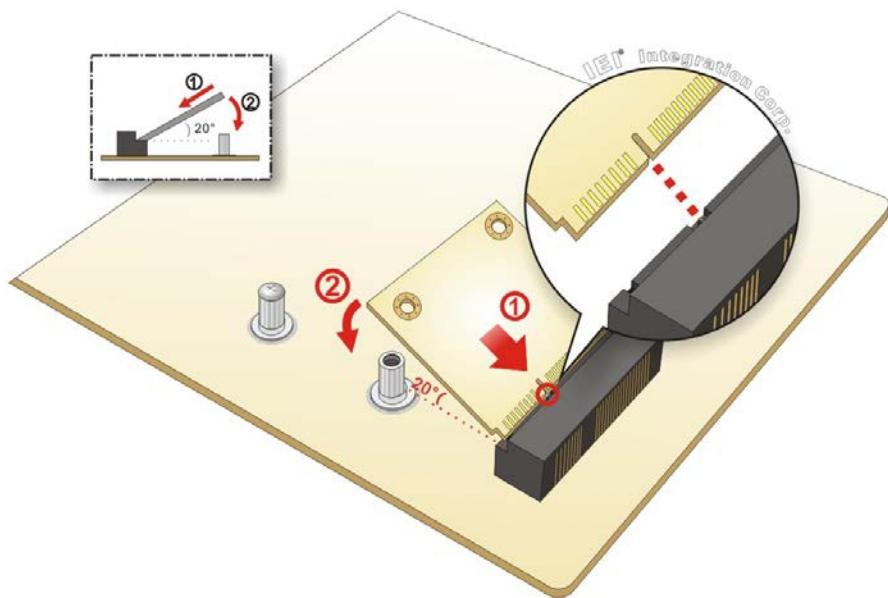

Figure 4-12: Inserting the Half-size PCIe Mini Card into the Slot at an Angle
**Step 3: Insert into the socket at an angle.** Line up the notch on the card with the notch on the slot. Slide the PCIe Mini card into the slot at an angle of about 20° (Figure 4-12).